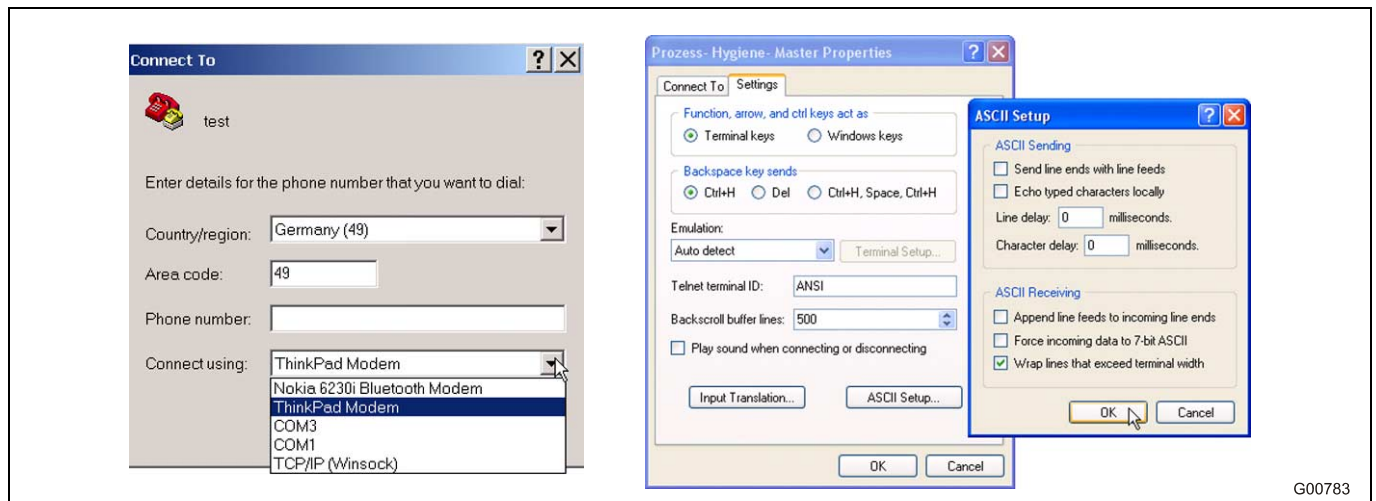

Fig. 25
2. On the Settings tab, make the settings shown in Fig. 25.